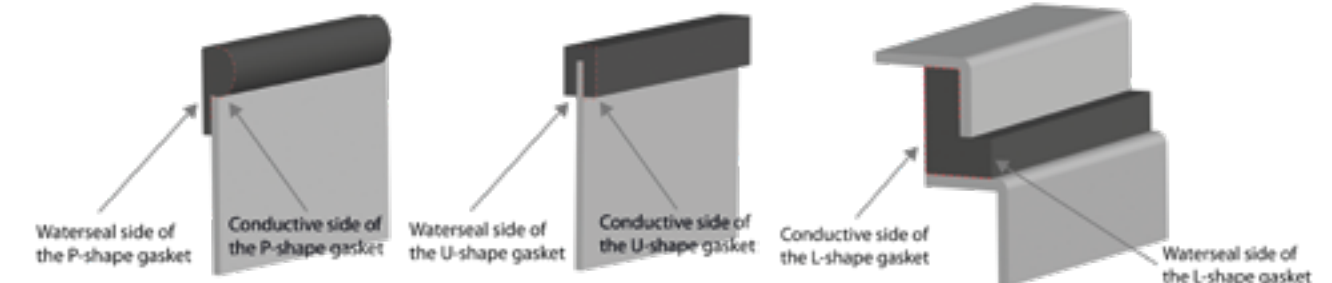

Figure 53: Example of a p-shape gasket and a u-shape gasket
- 53 For easy mounting** there are gaskets in a P-shape or U-shape available. These gaskets can be easily mounted on a rim due to their shape. (Fig. 53)